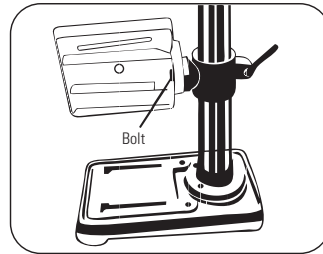

FIGURE 8.10
- Loosen the bolt on the table **7** (Figure 8.10).
- Tighten the bolt (Figure 8.10).